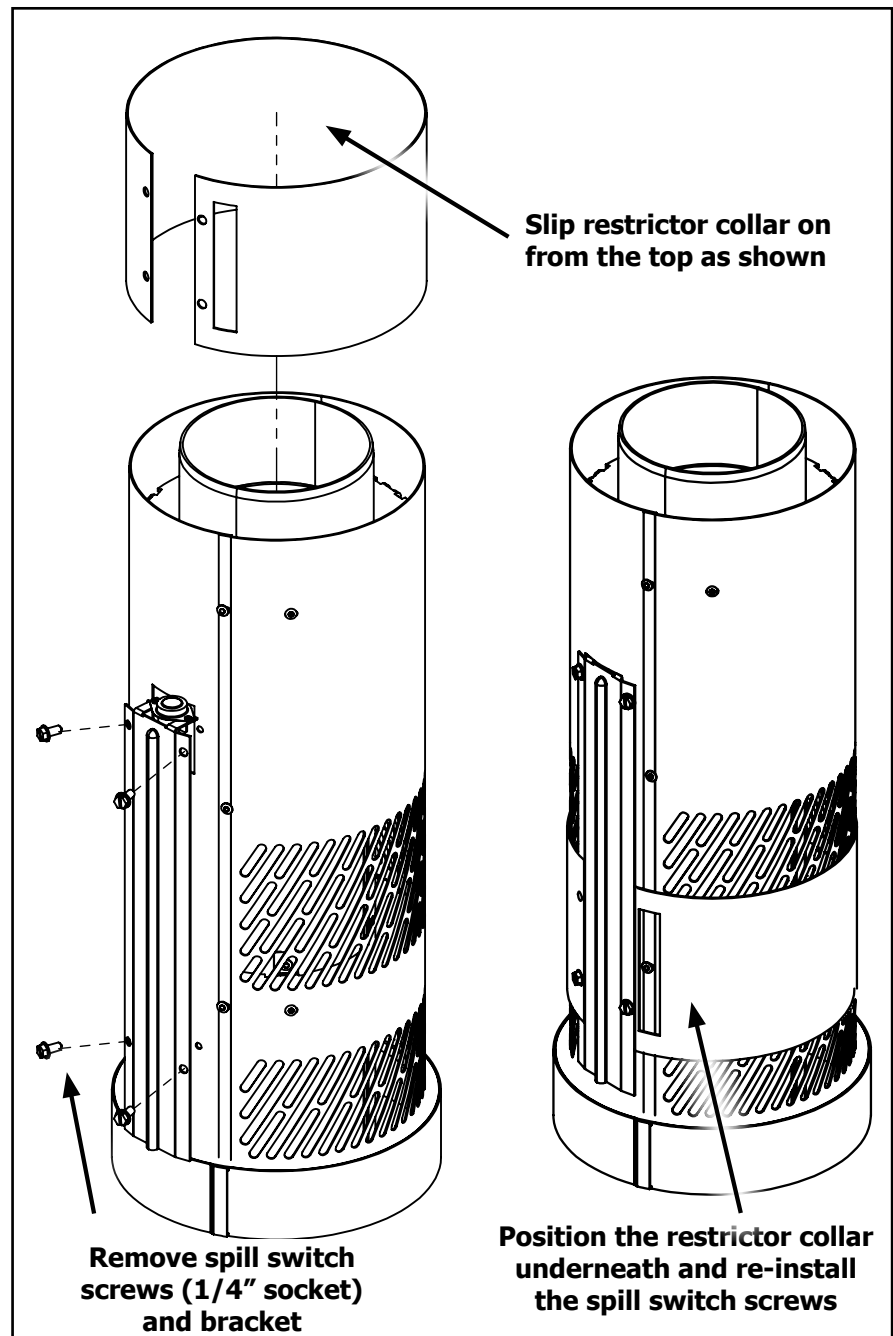

Figure 41: Drafhhood Restrictor Collar
2. Install the supplied restrictor collar onto the Drafhhood Adaptor as instructed below (Figure 41).